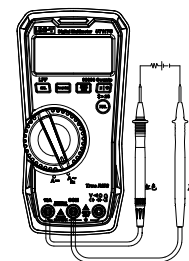

Figure 9
8. Current probe measurement (ACA/DCA) (Figure 9)
9. AC/DC current measurement (Figure 9)